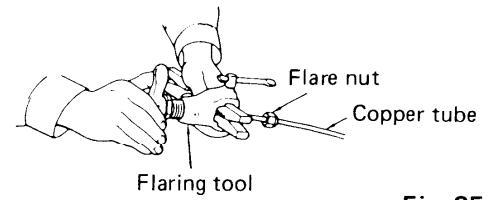

Fig. 25
- d) Make a flare at the end of copper tube with a flaring tool* Fig. 25 (*Use "RIGID" or equivalent.)